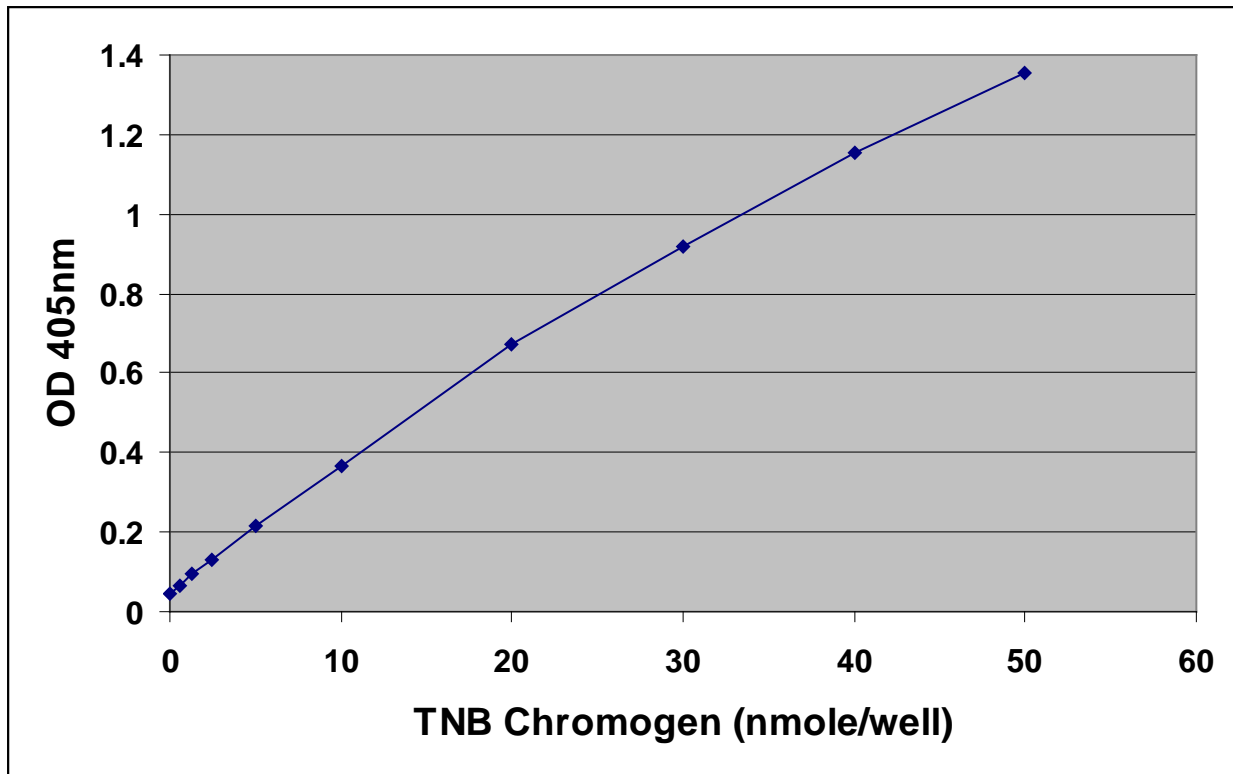

Figure 2. TNB Chromogen Standard Curve.
Determine the average absorbance values for every myeloperoxidase sample, sample buffer control, and TNB chromogen standard. Subtract the average zero standard value from itself and all standard and sample values. This is the background correction. Graph the standard curve (see Figure 2).
2. Using your graphed standard curve, extrapolate the amount of nmoles consumed. (E.g. Figure 2 indicates Q = 38 nmoles)